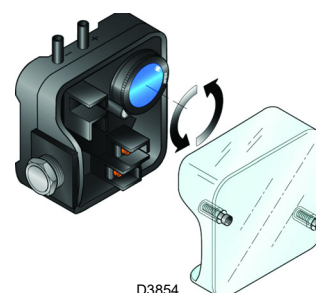

Fig. 28
- Adjust the air pressure switch (Fig. 28 on page 27) to the start of the scale.
Adjust the air pressure switch after performing all other burner adjustments with the air pressure switch set to the start of the scale (Fig. 28).